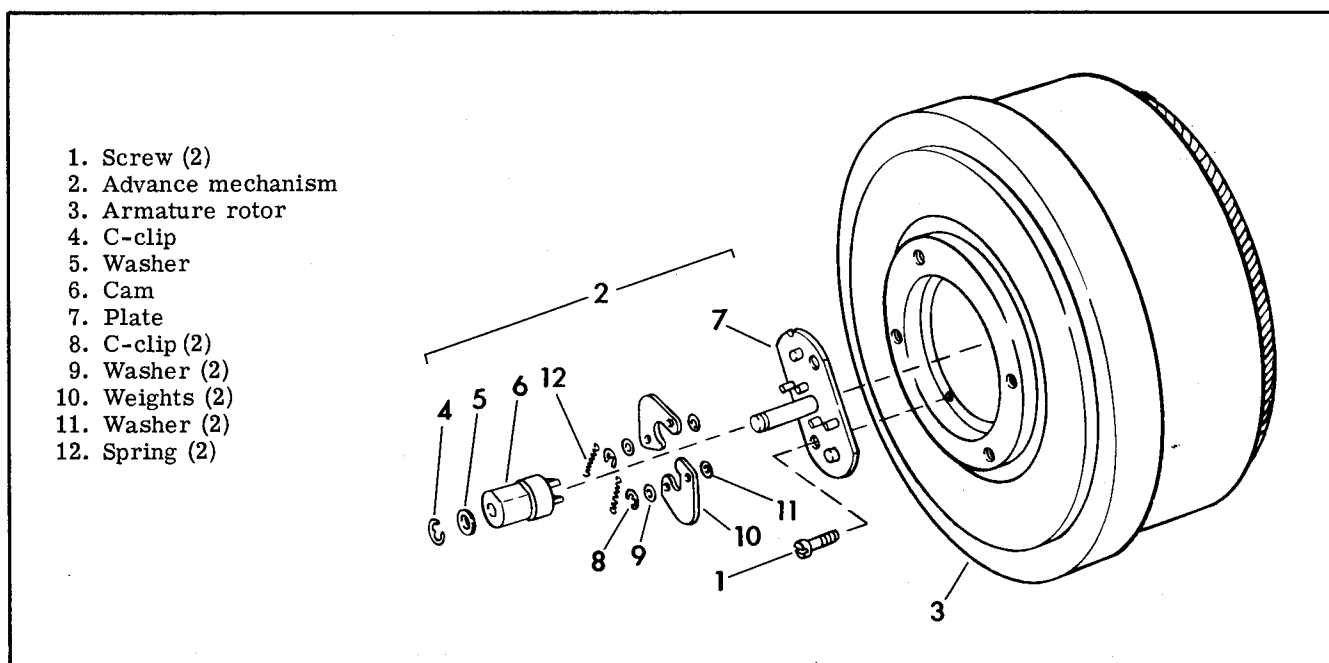

Figure 5F-13. Circuit Breaker Advance Unit - Exploded View (1963-66 Model D, 1968 & Earlier DC Models)
**DISASSEMBLING AND ASSEMBLING CIRCUIT BREAKER ADVANCE UNIT (1963-66 D, 1968 and earlier DC) (Fig. 5F-13)**